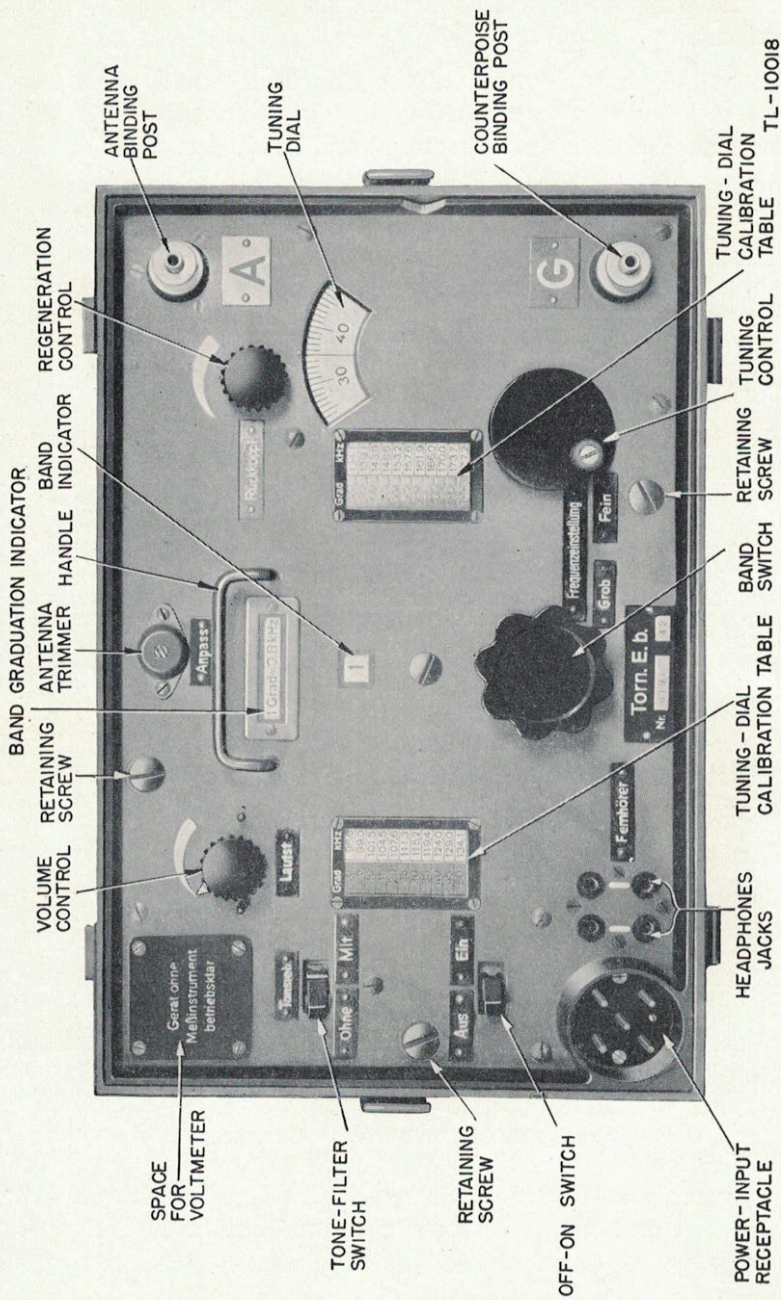
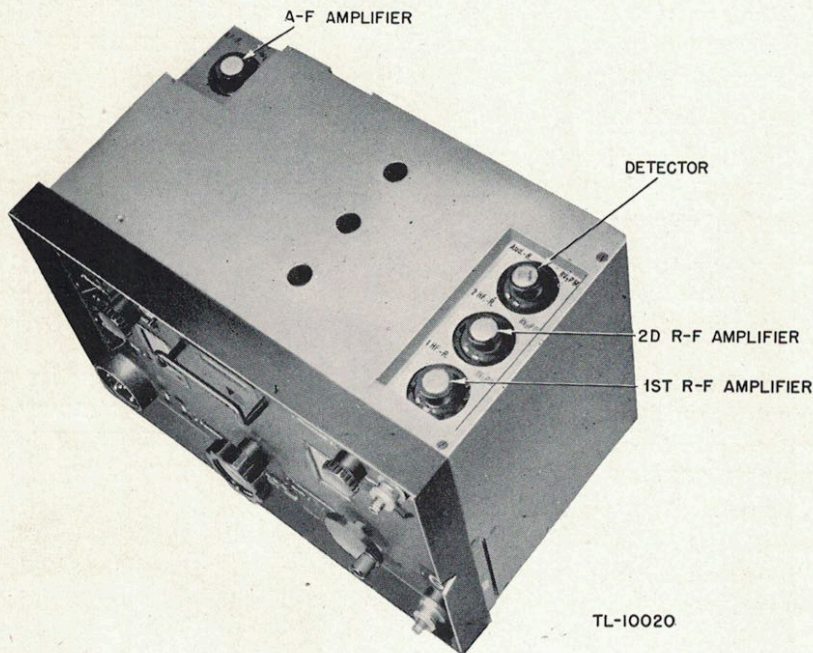

Figure 6. German radio set Torn. E. b., front view.
Figure 7. German radio set Torn. E. b., removed from case, top view.
**a. General.** After the set is installed it is put in operation as follows (see fig. 6 for location of controls):
- (1) Turn the **Aus-Ein** (off-on) switch on **Ein** (on).
- (2) Test the battery voltages; by reading the voltmeter on the set the pointer should be in the red section of the scale for correct filament voltage. Upon pressing the button on the voltmeter, the plate voltage is read and it should be in the blue section of the scale.
- (3) Turn **Frequenzeinstellung Grob** (band switch) to band 6, set the **Frequenzeinstellung Fein** (tuning control) between 80 and 100, and adjust **Anpass** (antenna trimmer) to maximum output. Either a received station or background noise may be used as an indication. This readjustment will only be necessary if the antenna is changed.
- (4) Turn the **Lautst** (volume control) to maximum.
- (5) Turn **Frequenzeinstellung Grob** (band switch) to desired frequency band.
- (6) Set the control marked **Rückkoppl** (regeneration) just below the point of oscillation for voice and tone telegraphy; for cw, set this control so that the detector just begins to oscillate, which is usually indicated by a rushing noise in the headset.
- (7) To increase selectivity on c-w signals, place the **Tonsieb** (tone-filter) switch on **Mit** (in). Place switch on **Ohne** (out) for voice or tone reception.
- (8) Slowly turn **Frequenzeinstellung Fein** (tuning control) in search of station to be worked, or set **Frequenzeinstellung Fein** on a previously designated frequency.
(2) Check all cords, plugs, and connections. Much of the trouble encountered is caused by defective cording and connections.
(3) Replace the tubes in order starting with the a-f amplifier and work to the r-f amplifier. To change tubes it is necessary to remove the set from the apparatus case. To remove the set from the apparatus case, loosen the three retaining screws which are on the front panel of the set (fig. 6). Figure 7 shows the set removed from the case, and the positions of all the tubes.